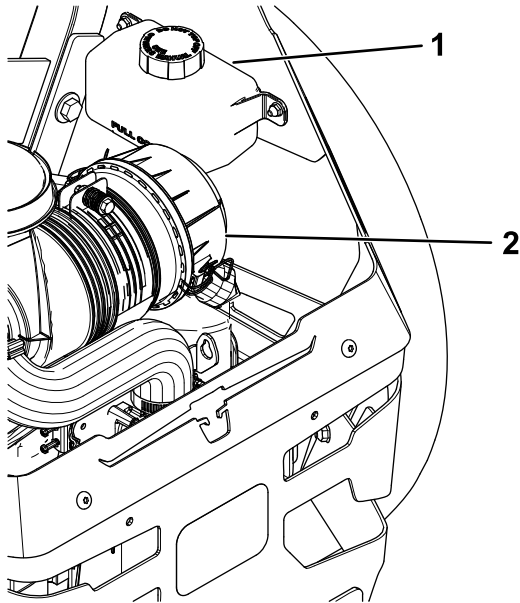

Figure 84
2. Check expansion reservoir and if necessary add Toro® HYPR-OIL™ 500 hydraulic fluid to the FULL COLD line (Figure 84).